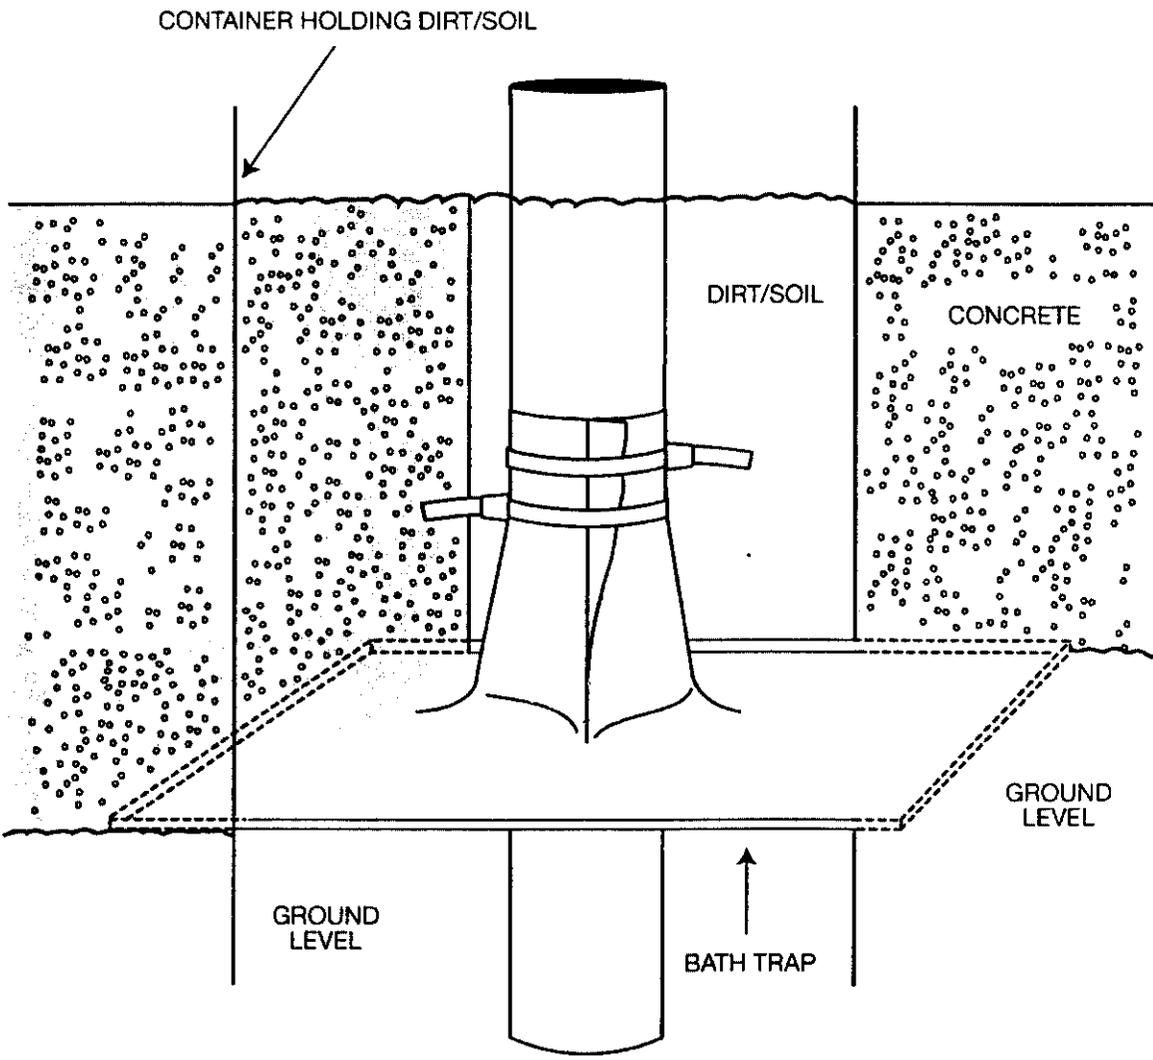

Figure 10
STEP 4. Replace the container and fill it with soil. Take care that the top of the conical section is below the top of the soil (See Figure 10).